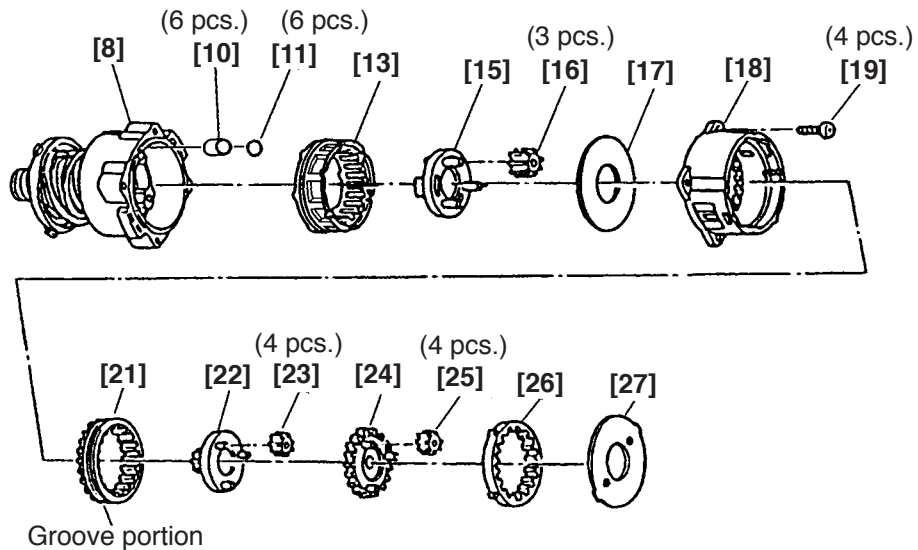

Fig. 6
(b) Mount the parts from the Roller [10] to Plate (A) [27] to the parts assembled in the above (3) in order (see Fig. 6).
- ① Mount the Roller [10] first then mount the Steel Balls D5 [11].
- ② Pay attention to the mounting direction of the Ring Gear [13], Carrier [15], Slide Ring Gear [21], Pinion (C) [22] and Pinion (B) [24] (see Fig. 6).
- ① Mount the Shift Arm [20] to the protruded side of the Rear Case [18] facing its bent portion forward. At this time, insert the protrusion of the Shift Arm [20] into the hole of the Rear Case [18] and check that the protrusion is inserted into the groove of the Slide Ring Gear [21] that is mounted in the Rear Case [18] (see Fig. 6).
- ② Insert the Shift Arm [20] into the groove of the Shift Knob [38] facing "LOW" indication on the Shift Knob [38] backward.